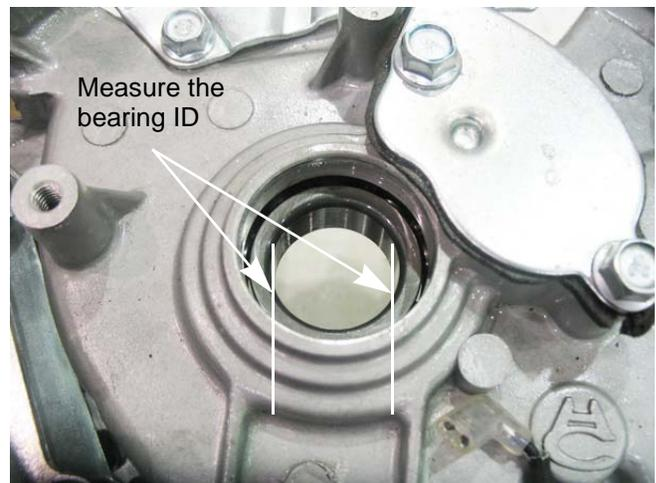

Figure 10.21
3. Measure the inside diameter of the bearings and compare to the chart at the end of this chapter. See Figure 10.21.